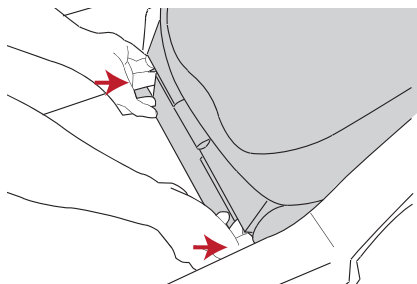

Figure 7
- To remove the seat, press down on the two black buttons found under the seat then pull up. See Figure 7.